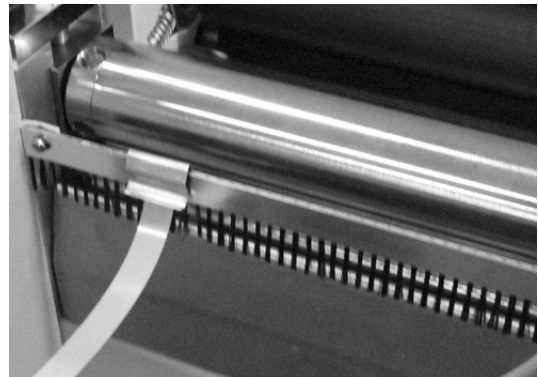

Figure 14
4. Figure 14 shows strap and clip in place.